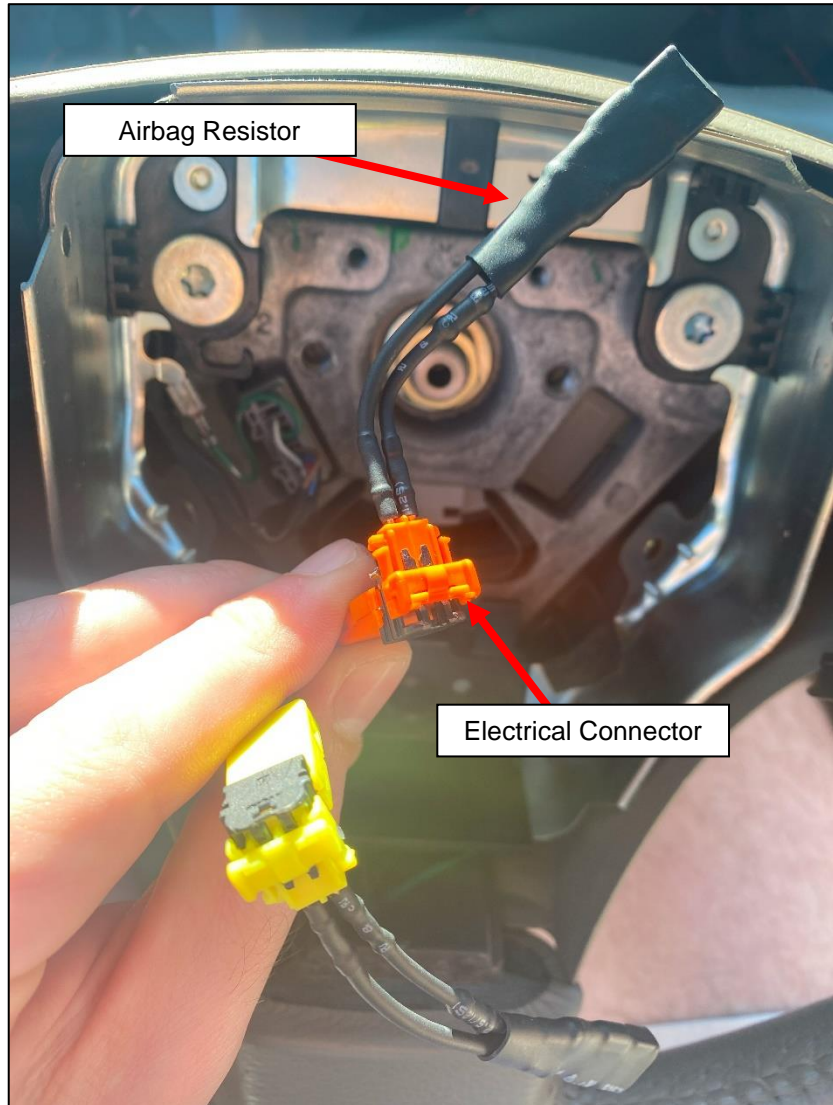

Figure 9
15. Locate the (2) two Airbag Resistors. Plug (1) one into each Airbag Connector removed in *Step 8*. These will prevent the car from throwing an Airbag Code. Wrap the Connectors and Resistors with electrical tape to secure them and tuck them into the Steering Hub. *Figure 9*.